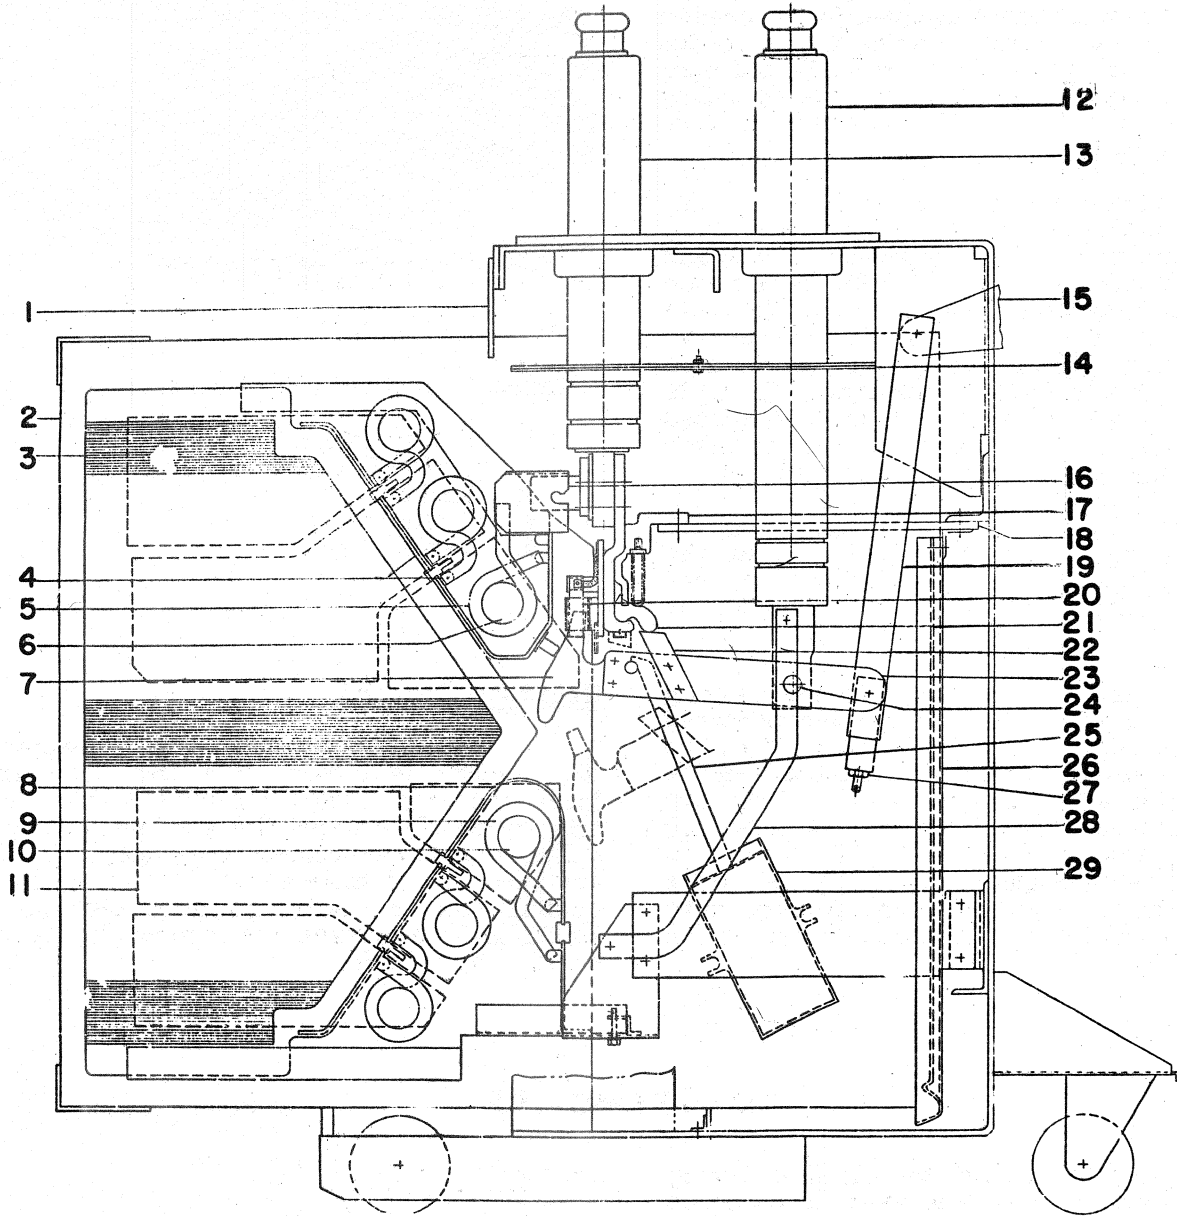

Figure 6. (0634D0372) Cross Section of Breaker Pole Unit
As the breaker opens to interrupt a current, the arc first starts at the arcing contacts (7 & 20) Figure 6, transfers to the arc runner (4 & 8) and energizes the blow-out coils (5 & 9). This action introduces a magnetic field between the pole pieces (11) of the interrupter that forces the arc deeper into the arc chute (3). At the time the arcing contacts part a discharge of air is expelled through the booster tube (25) across the arc. This air flow assists the arc transfer and interruption by blowing the arc away from the contacts and into the arc chute. As the magnetic field forces the arc deeper into the interrupter along the diverging arc runners, the field is progressively increased by the insertion of each additional blow-out coil into the circuit.